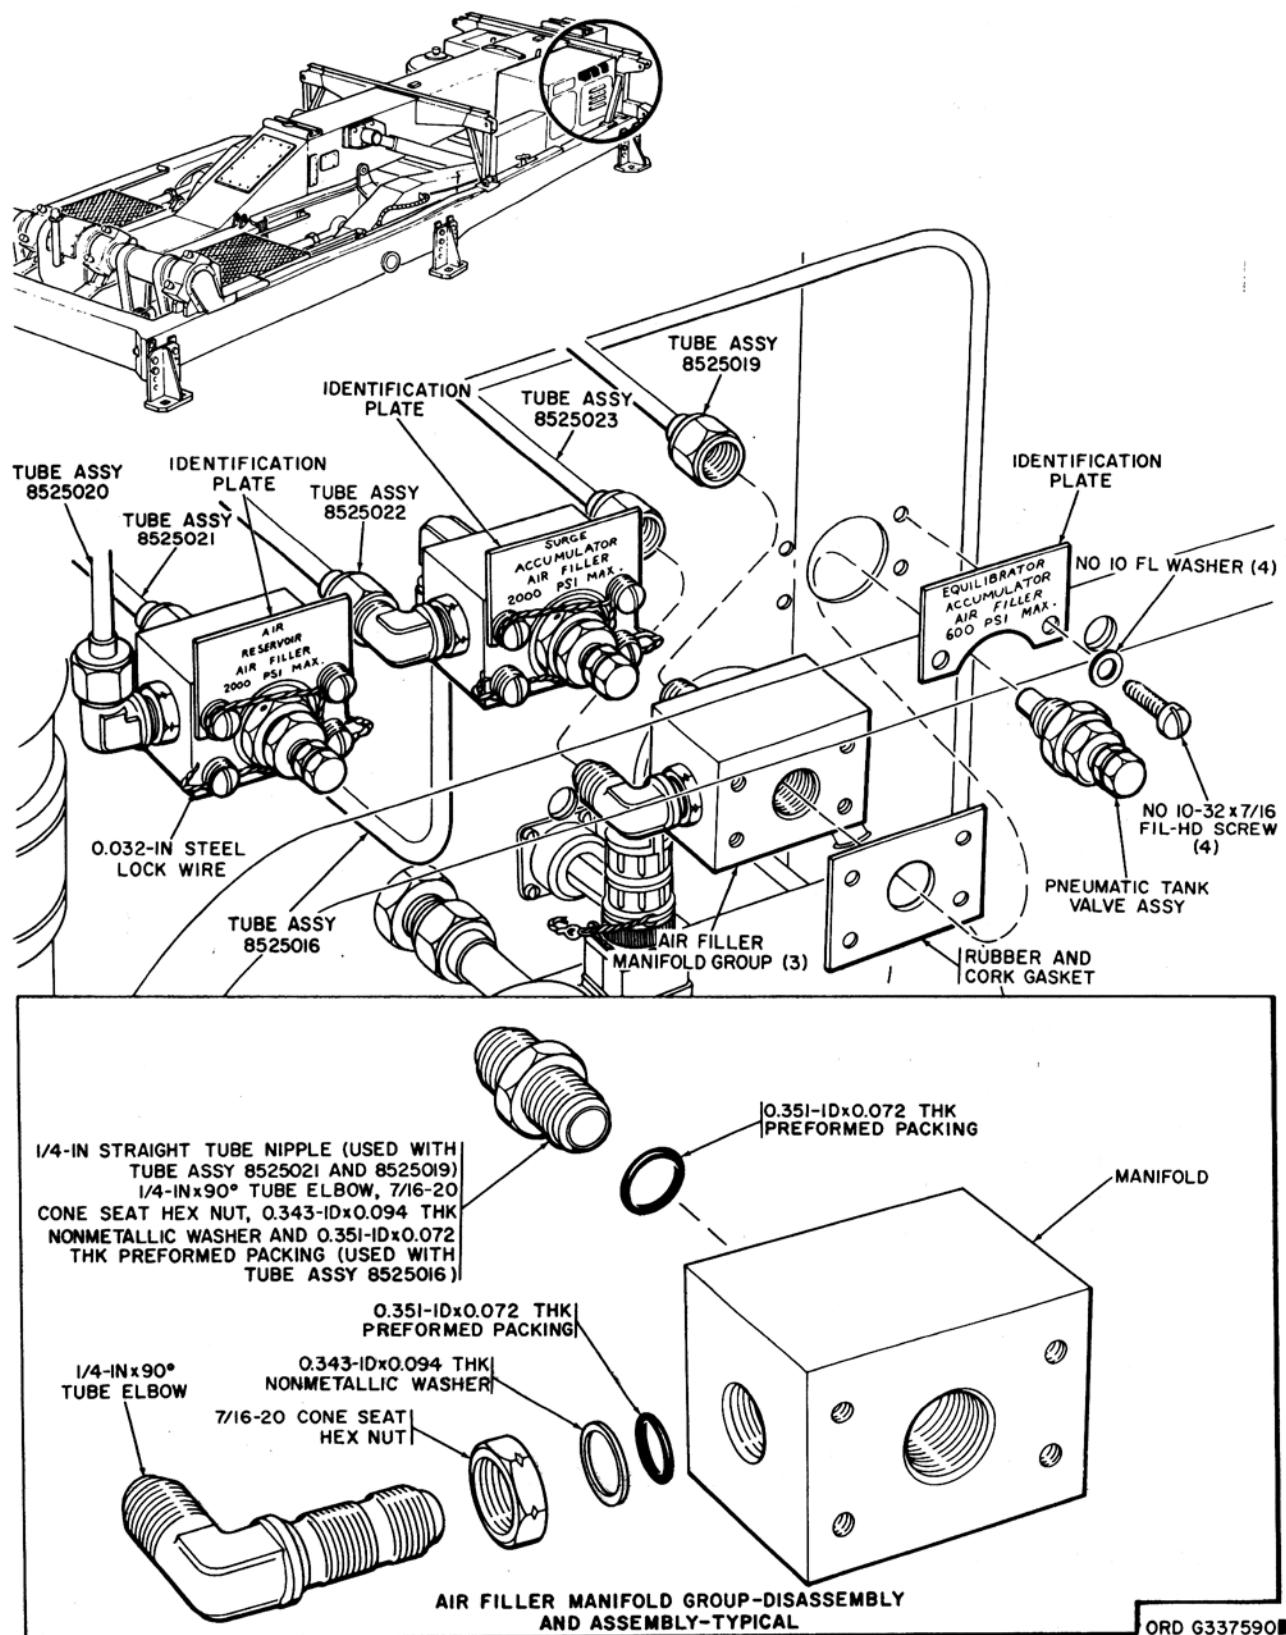

Figure 149. Pneumatic tank valve assembly and air filler manifold group – removal and installation – typical.
- (c) Disconnect two tube assemblies (fig. 149).
- (c) Disconnect the two tube assemblies (fig. 149).
- (2) *Disassembly.* Disassemble the air filler manifold group.
- (3) *Assembly.* Assemble the air filler manifold group.
- (4) *Installation.*